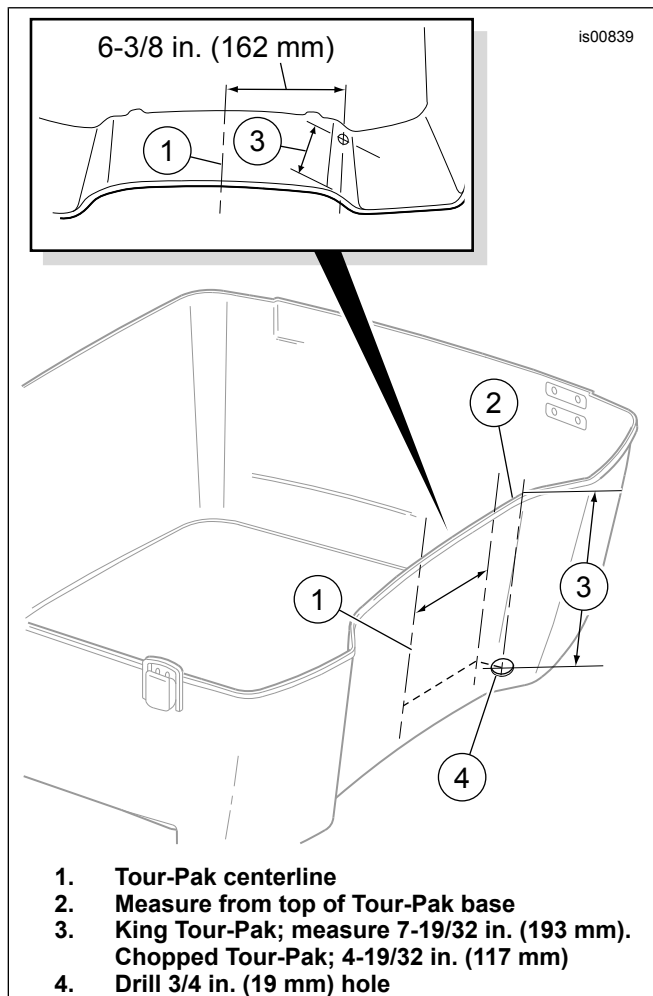

Figure 3. AM/FM Antenna Cable Drilling Location (Type 2 Tour-Pak)
- l. See Figure 3. Measure and determine the center (1) of the inside front Tour-Pak wall.
- o. Facing the tape, measure 6-3/8 in. (162 mm) from the center line to the left side front Tour-Pak wall. Do not follow the curve of the wall, but measure **straight across**. See Figure 3 inset.